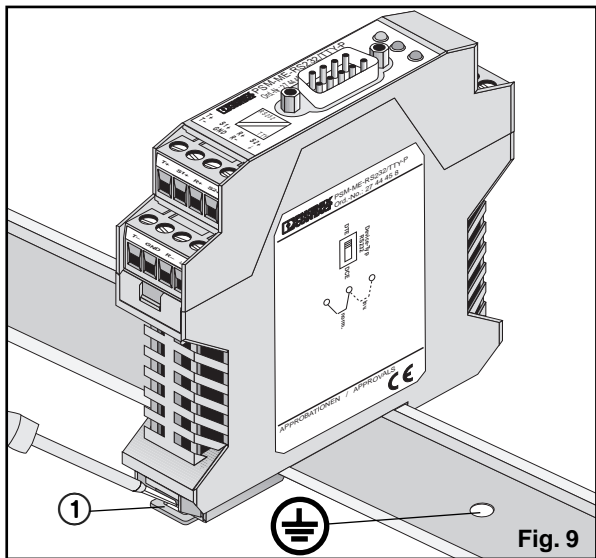

Fig. 9
5.2. Mounting in the switch cabinet (fig. 9)